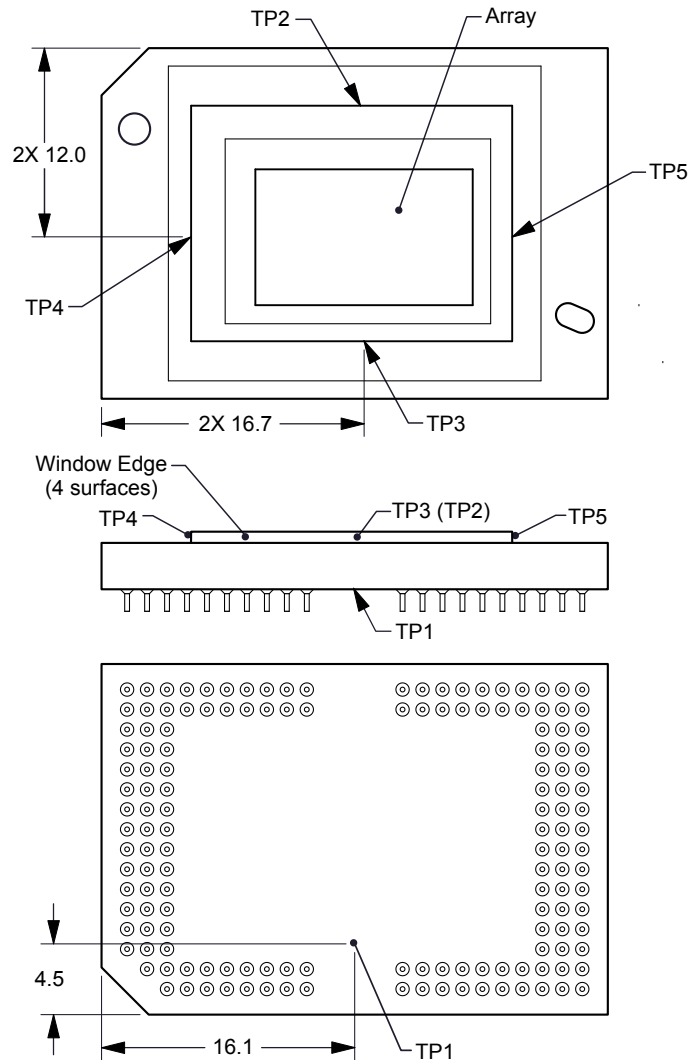

Figure 6-1. DMD Thermal Test Points
Micromirror array temperature cannot be measured directly, therefore it must be computed analytically from measurement points on the outside of the package, the package thermal resistance, the electrical power, and the illumination heat load. The following equations show the relationship between array temperature and the reference ceramic temperature, thermal test TP1 Figure 6-1 shown above:
- T_{CERAMIC} = Measured ceramic temperature (°C), TP1 Figure 6-1
- $R_{\text{ARRAY-TO-CERAMIC}}$ = Thermal resistance of package specified in Section 5.5 from array to ceramic TP1 Figure 6-1 ($^{\circ}\text{C}/\text{W}$).
- Q_{ARRAY} = Total DMD Power (electrical + absorbed) on the array (W)
- $Q_{\text{ELECTRICAL}}$ = Nominal electrical power (W)
- Q_{INCIDENT} = Incident illumination optical power (W)
- $Q_{\text{ILLUMINATION}}$ = (DMD average thermal absorptivity $\times Q_{\text{INCIDENT}}$) (W)